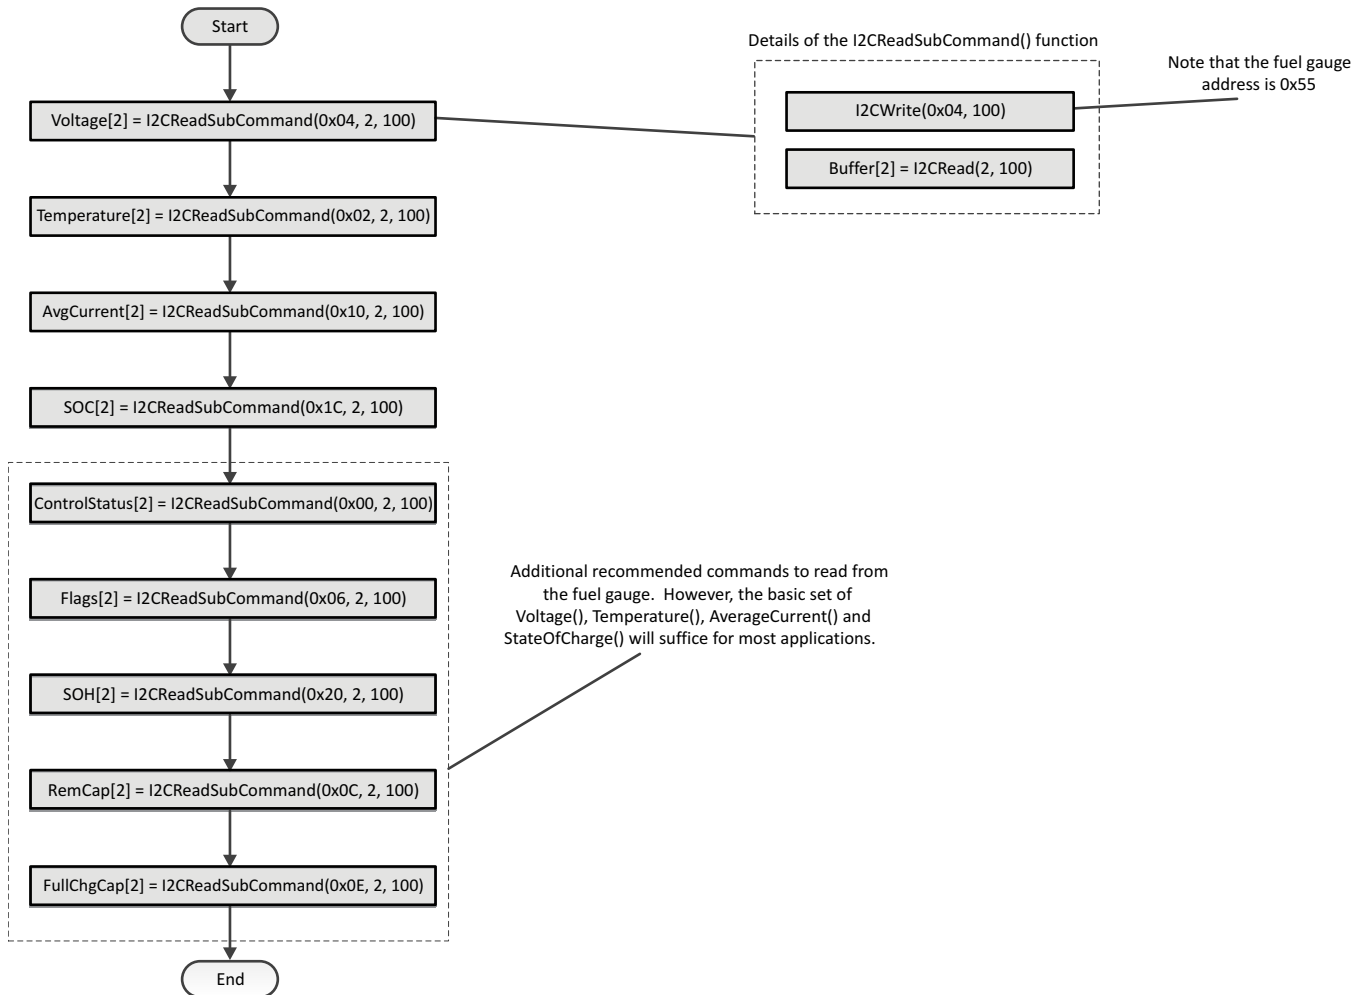

**Figure 1. Flowchart for Updating the Gauge Configuration Parameters**
The procedure and commands required to update the configuration parameters are shown in the flowchart of Figure 1.
**NOTE:** The process for updating the RAM can also be handled through parsing the data contents in a \*.dffs file generated by GaugeStudio. A \*.dffs is a series of I2C commands that can be processed by the host. Using the \*.dffs file will allow the host an alternative route to updating the RAM instead of following the flow outlined in Figure 1.
See Figure 1 for more details on the RAM update process.